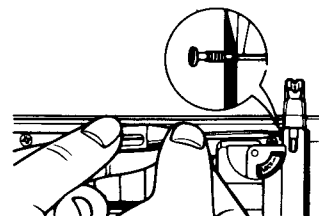

Fig. 5
2. Loosen the cartridge setscrew with the attached screwdriver. (Turn the setscrew until it is freed as shown in Fig. 5.)